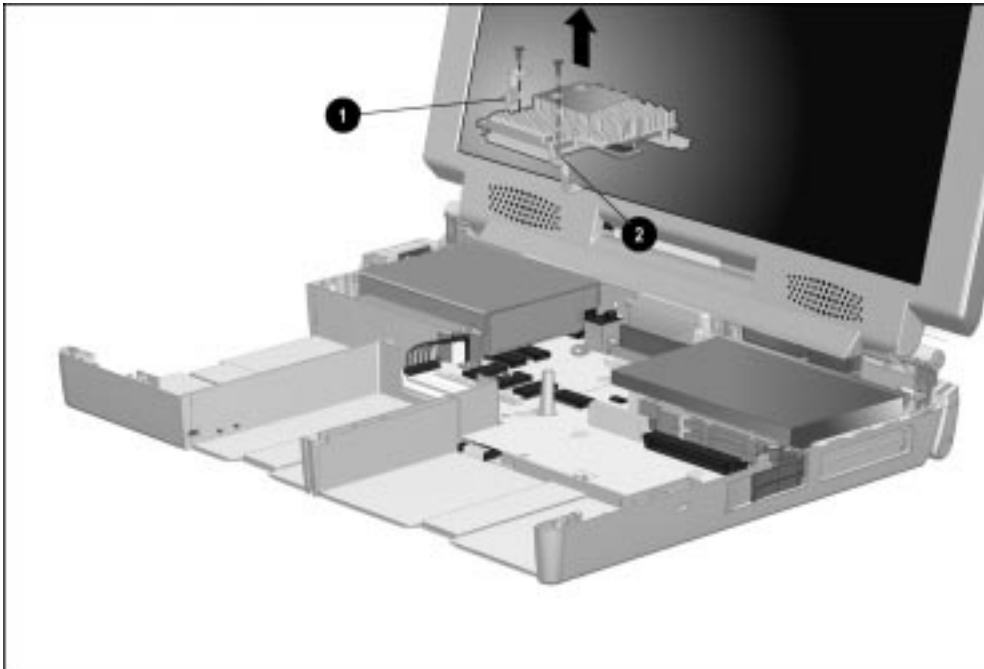

Figure 5-46. Processor Module Assembly Ground Clip Locations and Alignment
When replacing the processor module assembly, remove the two ground clips ❶ and ❷ that are attached to the assembly and retain them for use with the new processor module assembly (Figure 5-46).